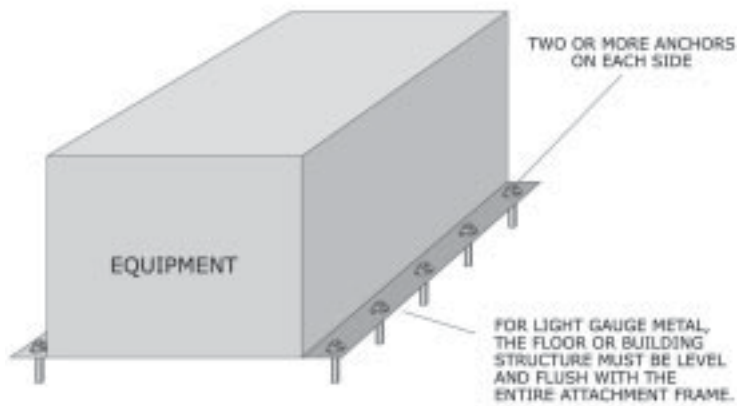
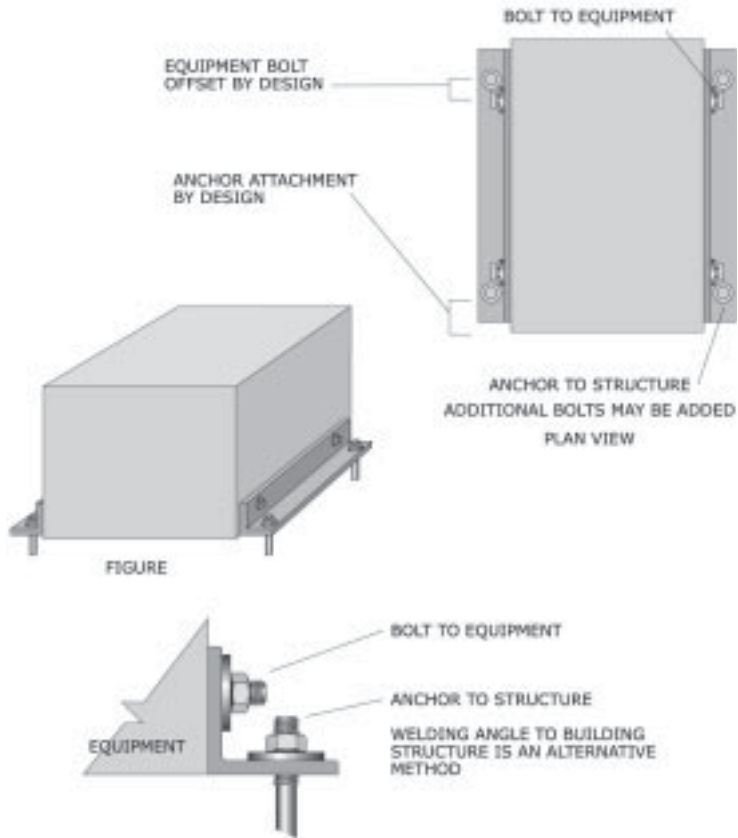

Figure 73: Direct attachment of equipment with sheet steel housing to a building.
Figure 77: Two angles used to attach the equipment to the building.
Attachment of equipment with sheet steel housings is shown in Figures 73 and 74 (page 52).
Do not add shims under equipment with sheet steel housings as shown in Figure 73 above. If the concrete floor/pad is irregular, reinforce housing with angles as shown in Figure 77 (page 56).
- Full-size angles on each side of equipment (Figure 77, page 56).